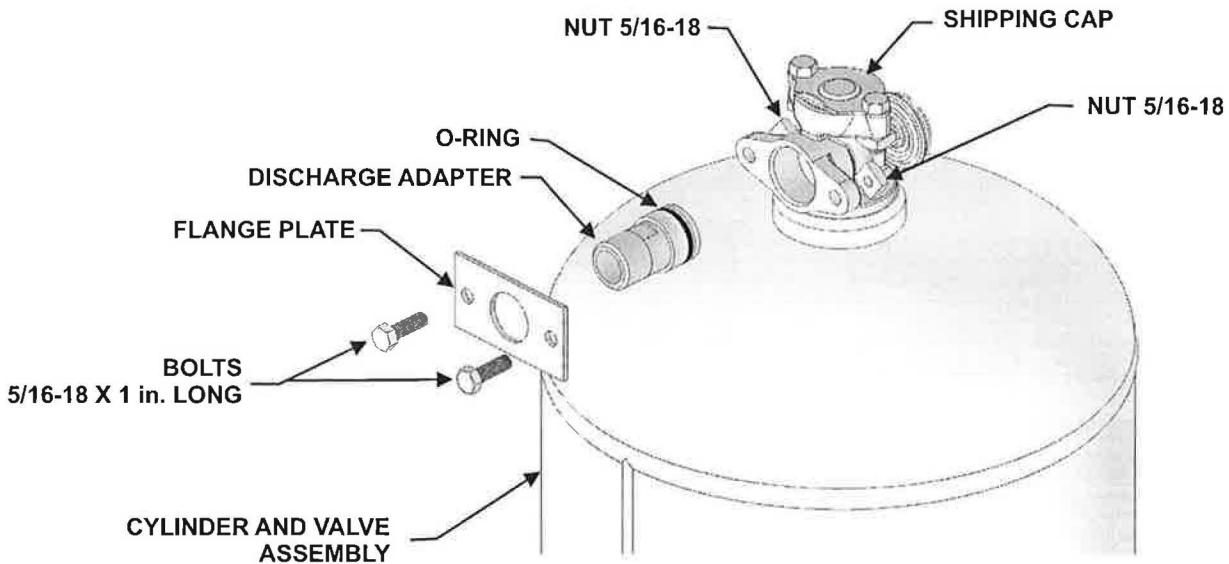

Figure 5-20. Removing Discharge Adapter Kit
7. Disconnect Discharge Adapter Kit (agent piping) from all cylinders (see Figure 5-20).